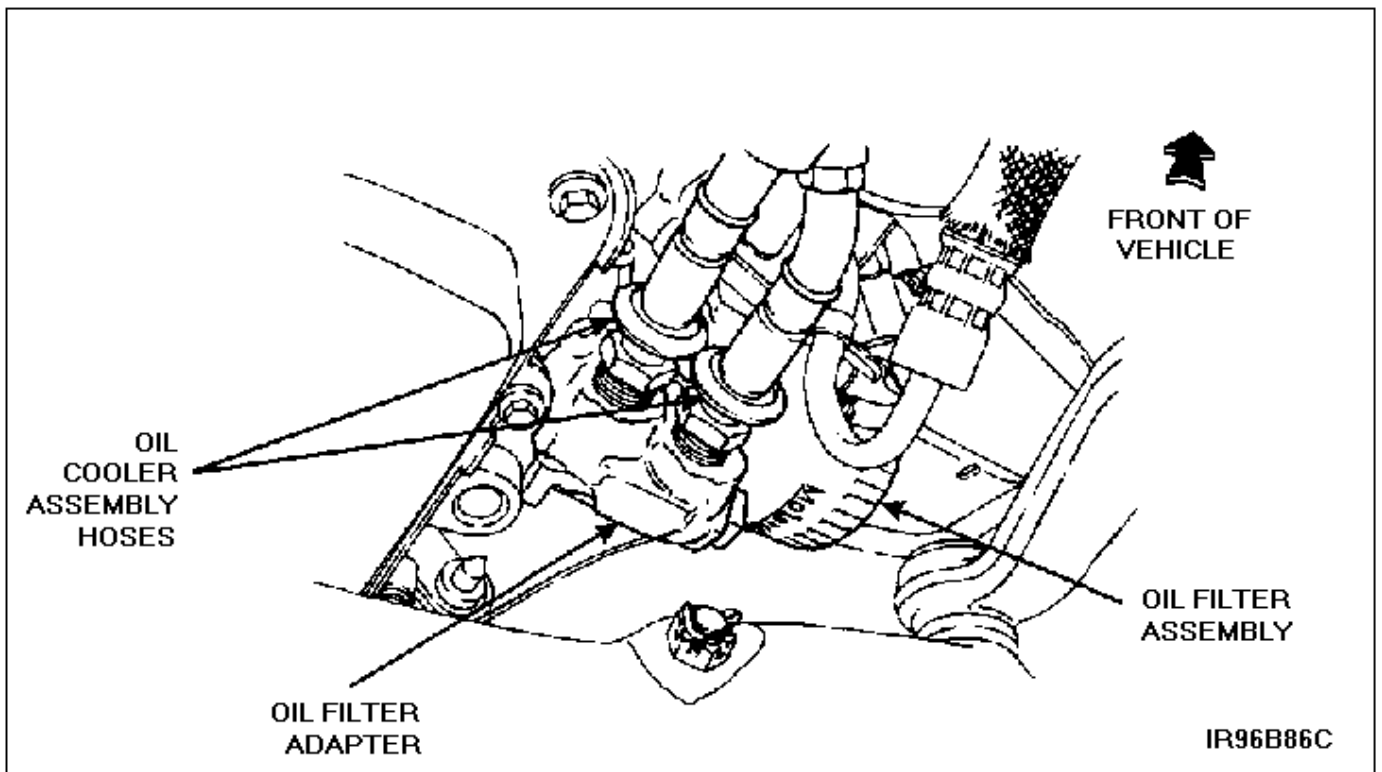

Figure 2
5. Using appropriate quick disconnect tool, disconnect both cooler assembly hoses from oil filter adapter. See Figure 2.